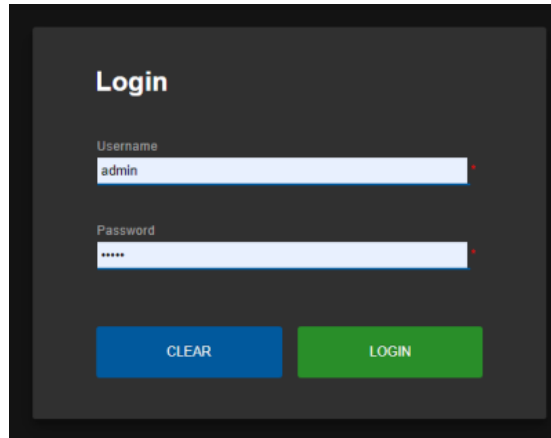

Figure 9-1: MAGNUM - Login Screen
2. Log in using the appropriate login and password. The factory default is admin/admin (as shown in Figure 9-1).